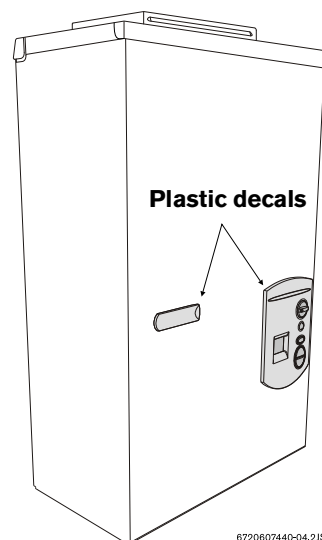

Fig. 6 Remove front cover
- Plastic decal shields for covering front cover screws and control panel, installer should affix these decals to the front of the unit after installation is complete. See Fig. 6
- Loosen the two Philips head screws located on front panel (beneath plastic decal shields if they are already attached, see Fig. 6).